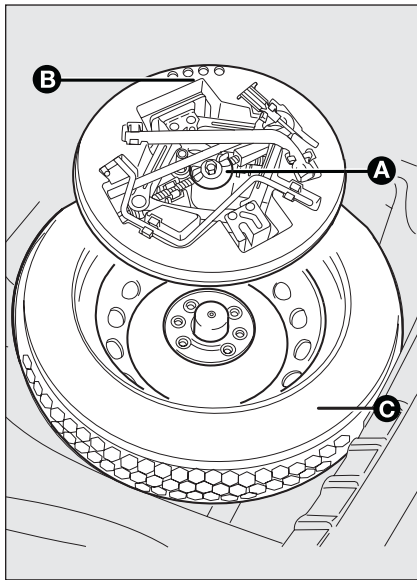

fig. 11
- loosen the fastening device **A**-fig. 11;
- stow the spare wheel **C-fig. 11** in the space provided in the boot;
- Fit the jack partially open in its box **B-fig. 11** forcing it lightly to prevent it from vibrating when travelling;
- arrange the container and tools in the spare wheel and secure the fastening device **A-fig. 11**;